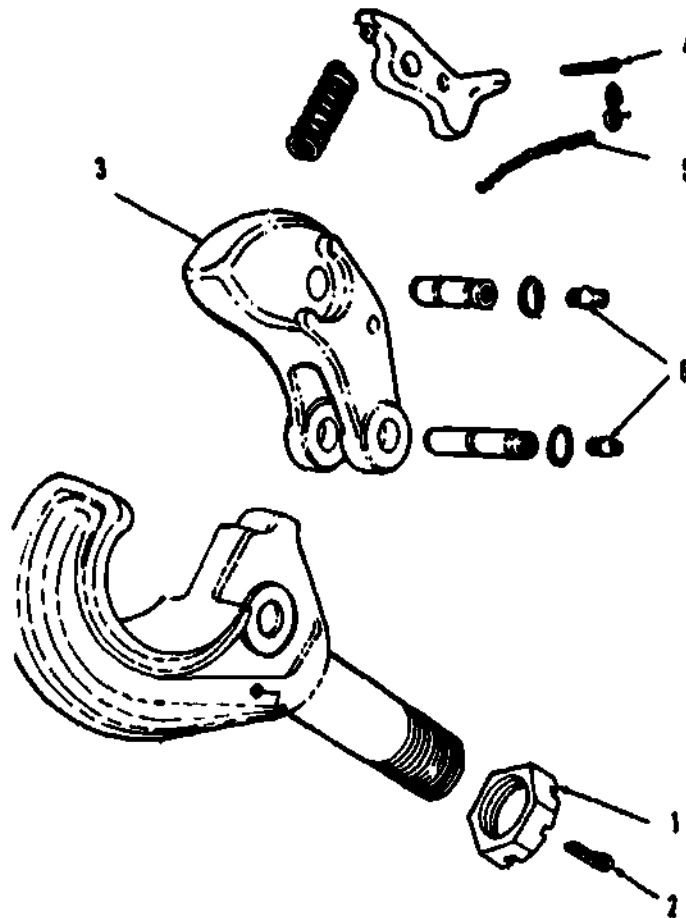

Fig 2-94. Exploded view of pintle hook.
e. Towing/tiedown fixtures. Check the nut (1, fig 2-94) and cotter pin (2, fig 2-94) to make sure they are in place on the pintle hook. The pintle hook must be able to turn, but not have too much front-to-rear play. The cotter pin must be installed. The upper jaw (3, fig 2-94) is designed to stay in the open position when opened until closed by the operator. If the top jaw will not stay open, you will find it very hard to hold the jaw open with one hand and lift the trailer with the other. Safety pin (4, fig 2-94) and chain (5, fig 2-94) must be attached to the pintle as a safety device to prevent the upper jaw from accidentally opening. Grease fittings (6, fig 2-94) insure proper lubrication of the pintle hook.